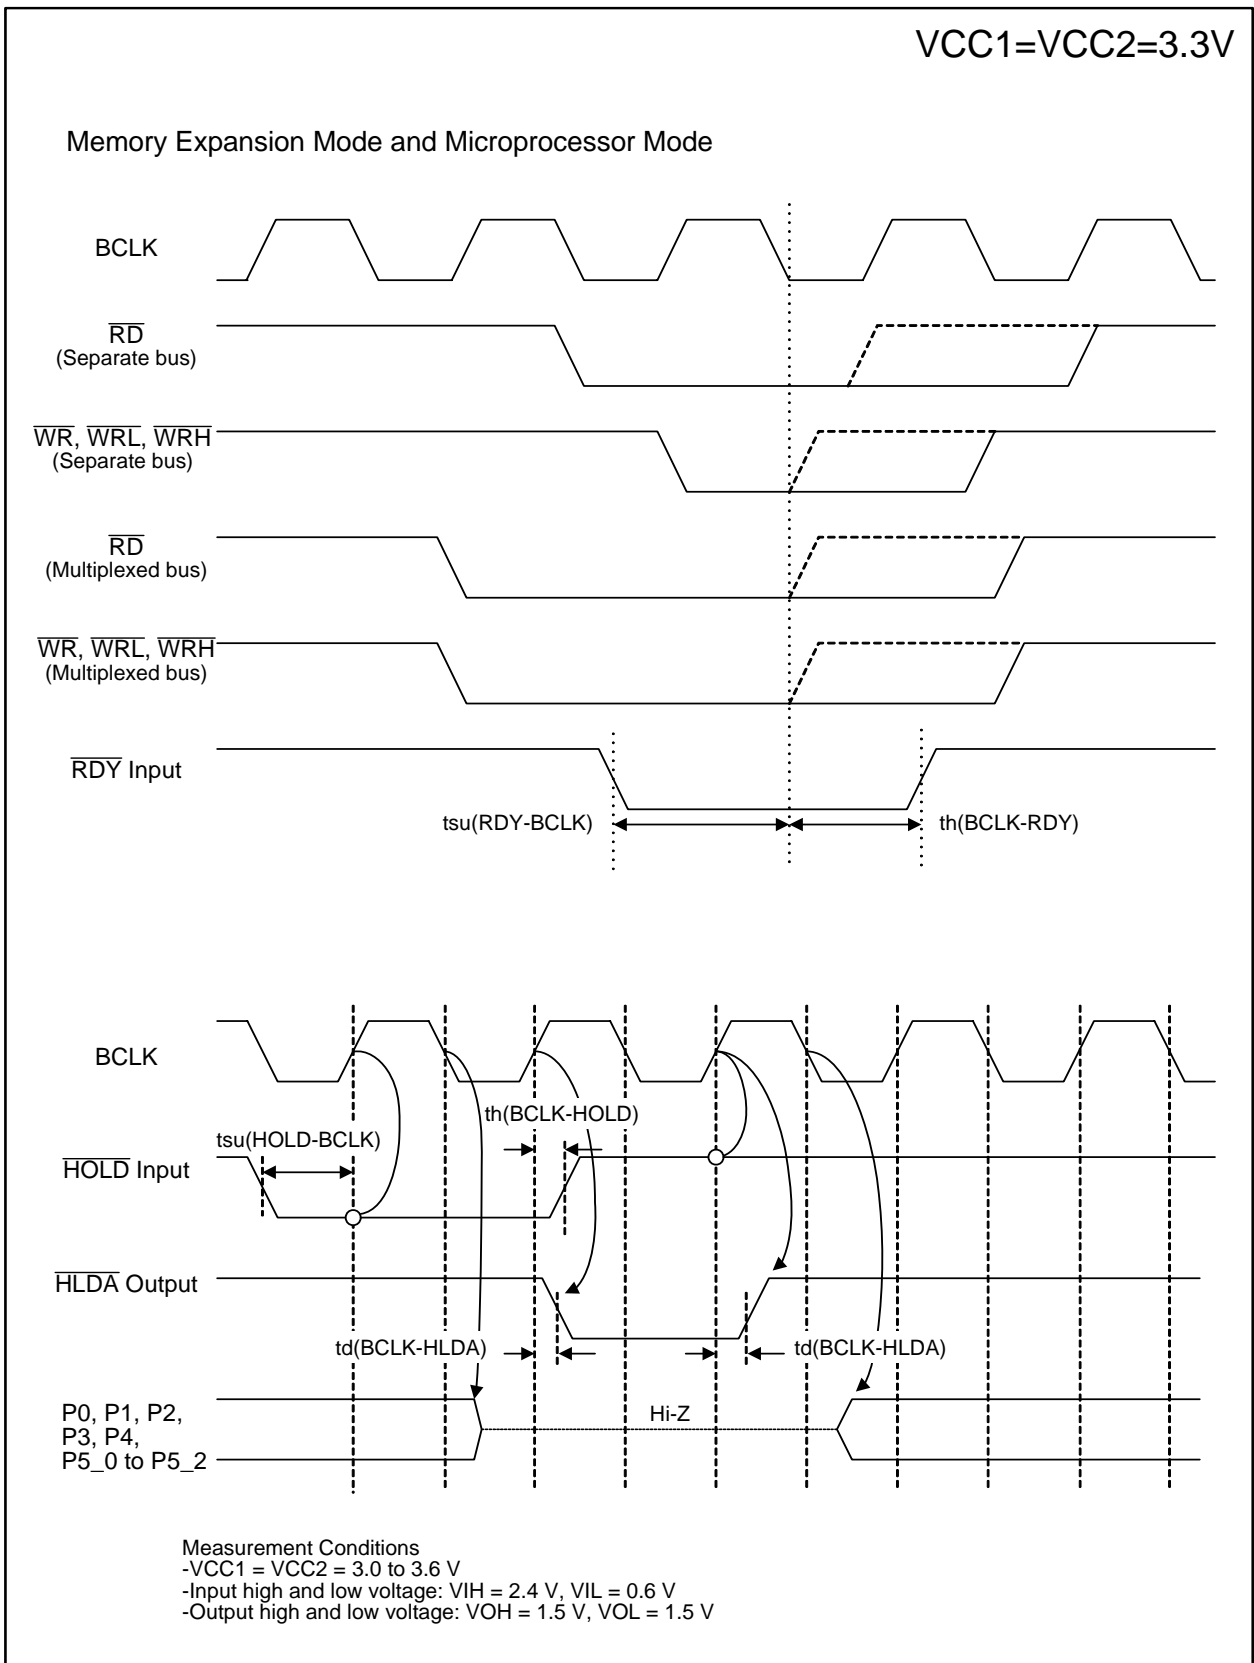

Figure 5.8 VCC1 = VCC2 = 3.3 V Timing Diagram (2/4)
72	• Figure 5.8 Vcc1=Vcc2=3.3V Timing Diagram (2) $t_{ac2}(RD-DB)$ and $t_{ac1}(AD-DB)$ expressions on note 1 modified; $t_h(ALE-AD)$ expressions on notes 1 and 2 modified; $t_d(WR-AD)$, $t_d(DB-WR)$ and $t_h(WR-DB)$ expressions on note 2 modified; t_{cyc} expression added